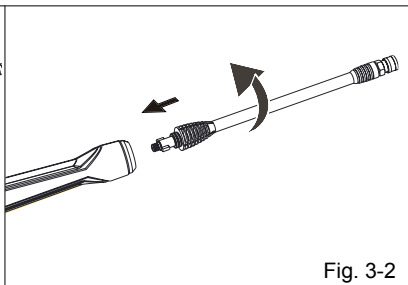

Fig. 3-2
- While pushing in the wand firmly, turn clockwise until tabs lock into place to ensure a leak-free connection. (See Figure 3-2.)